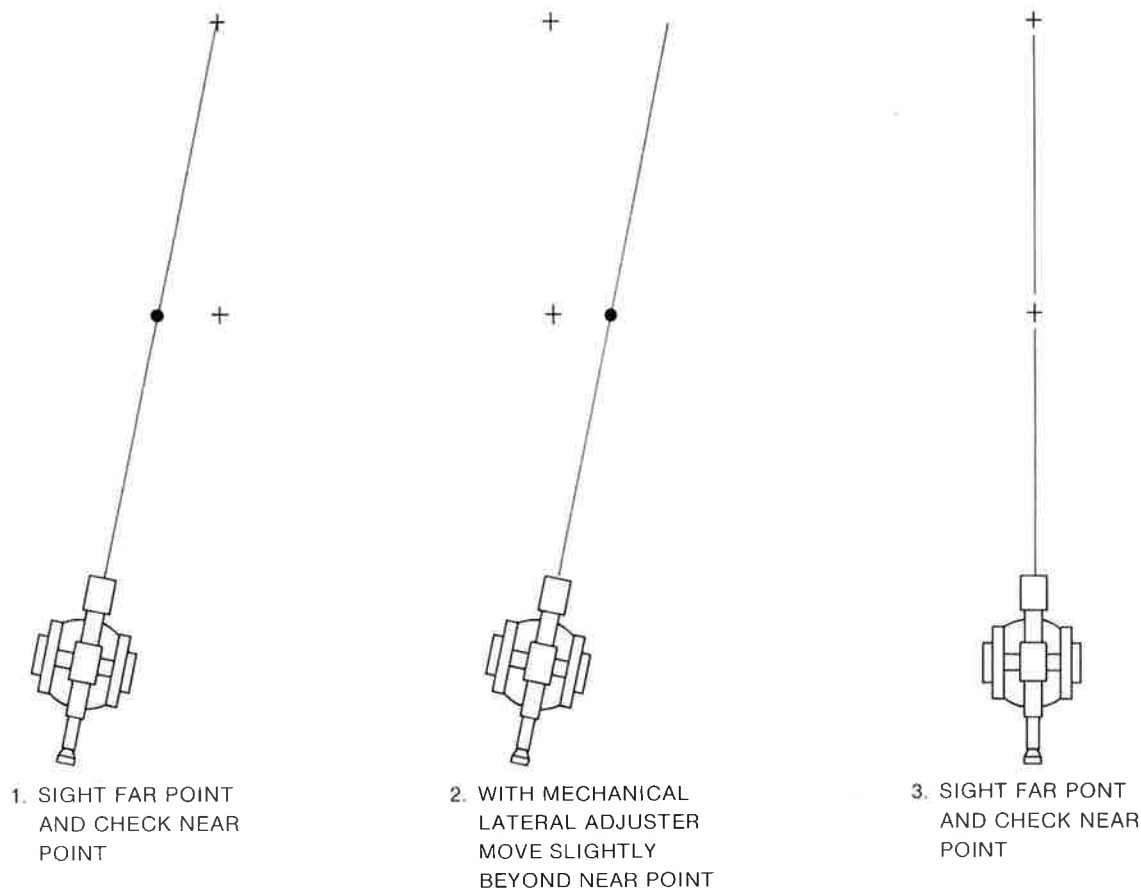

Figure 2-5. Bucking-In
6. Repeat steps 3, 4, and 5 until the Jig Transit is nearly in line with both targets. (See Figure 2-5.)